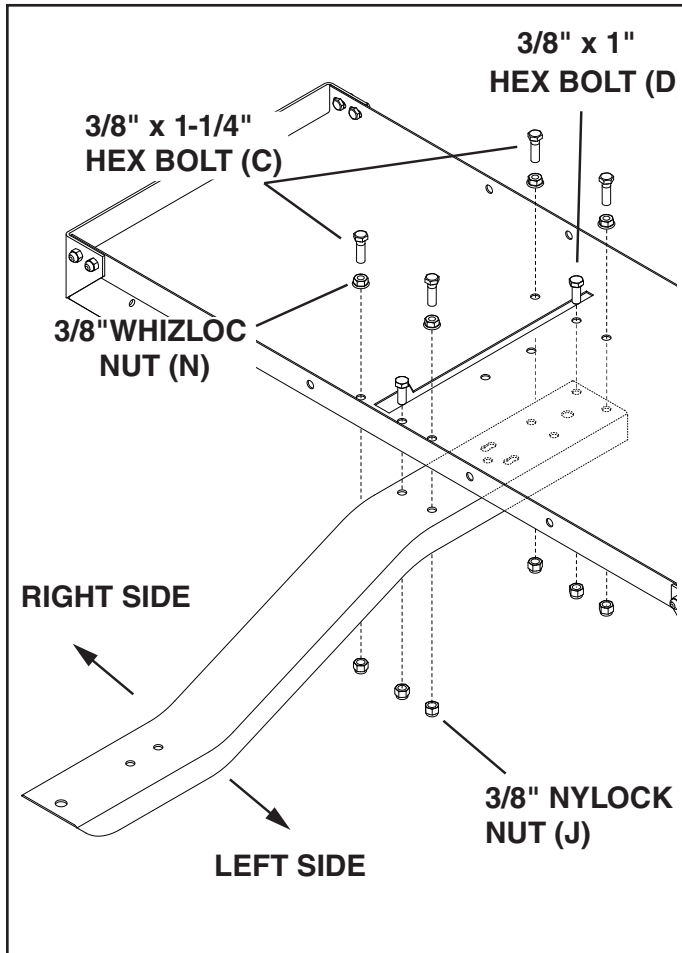

FIGURE 8
**IMPORTANT:** Make sure the tray is turned so that the locking notch is at the front as shown in figure 8.
11. Assemble the tongue to the tray using two 3/8" x 1" hex bolts (D), two 3/8" x 1-1/4" hex bolts (C), two 3/8" whizloc nuts (N), and four 3/8" nylock nuts (J) as shown in figure 8. **Tighten.**
12. Assemble two 3/8" x 1-1/4" hex bolts (C), two 3/8" whizloc nuts (N) and two 3/8" nylock nuts (J) to the holes on the other side of the slot in the tray. **Tighten.** See figure 8.